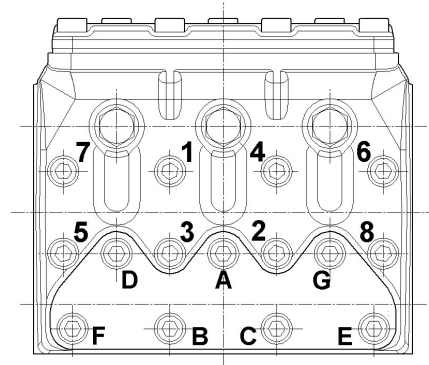

Fig. 24
D) To reassemble the valves proceed the other way round, and tighten the cover screws with a torque wrench. Table on page 17 contains the screw tightening torque values and fig. 24 indicates the sequence.
| <p>* The conrod screws must be tightened as indicated on point D) page 13.</p> <p>** The valve plate must be tightened following the sequence as indicated on fig. 24.</p> <p>*** The fluid end screws must be tightened in 2 periods following the sequence indicated by fig. 24.1° period = 20 Nm2° period = 40 Nm</p> |                              |                    |                |